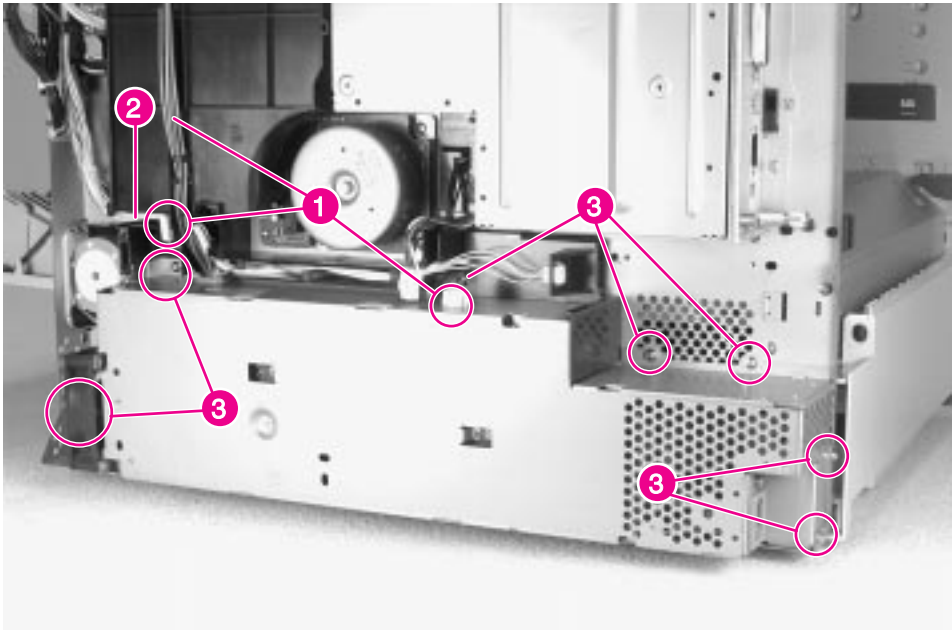

Figure 6-42 Low Voltage Power Supply
- Low Voltage Power Supply (LVPS) (see figure 6-42)
- 4 Unplug 3 LVPS connectors (figure 6-42, callout 1).
- 5 Unplug the LVPS fan (FM1) cable from the DC Controller (figure 6-42, callout 2).
- 6 Remove 7 screws (figure 6-42, callout 3).